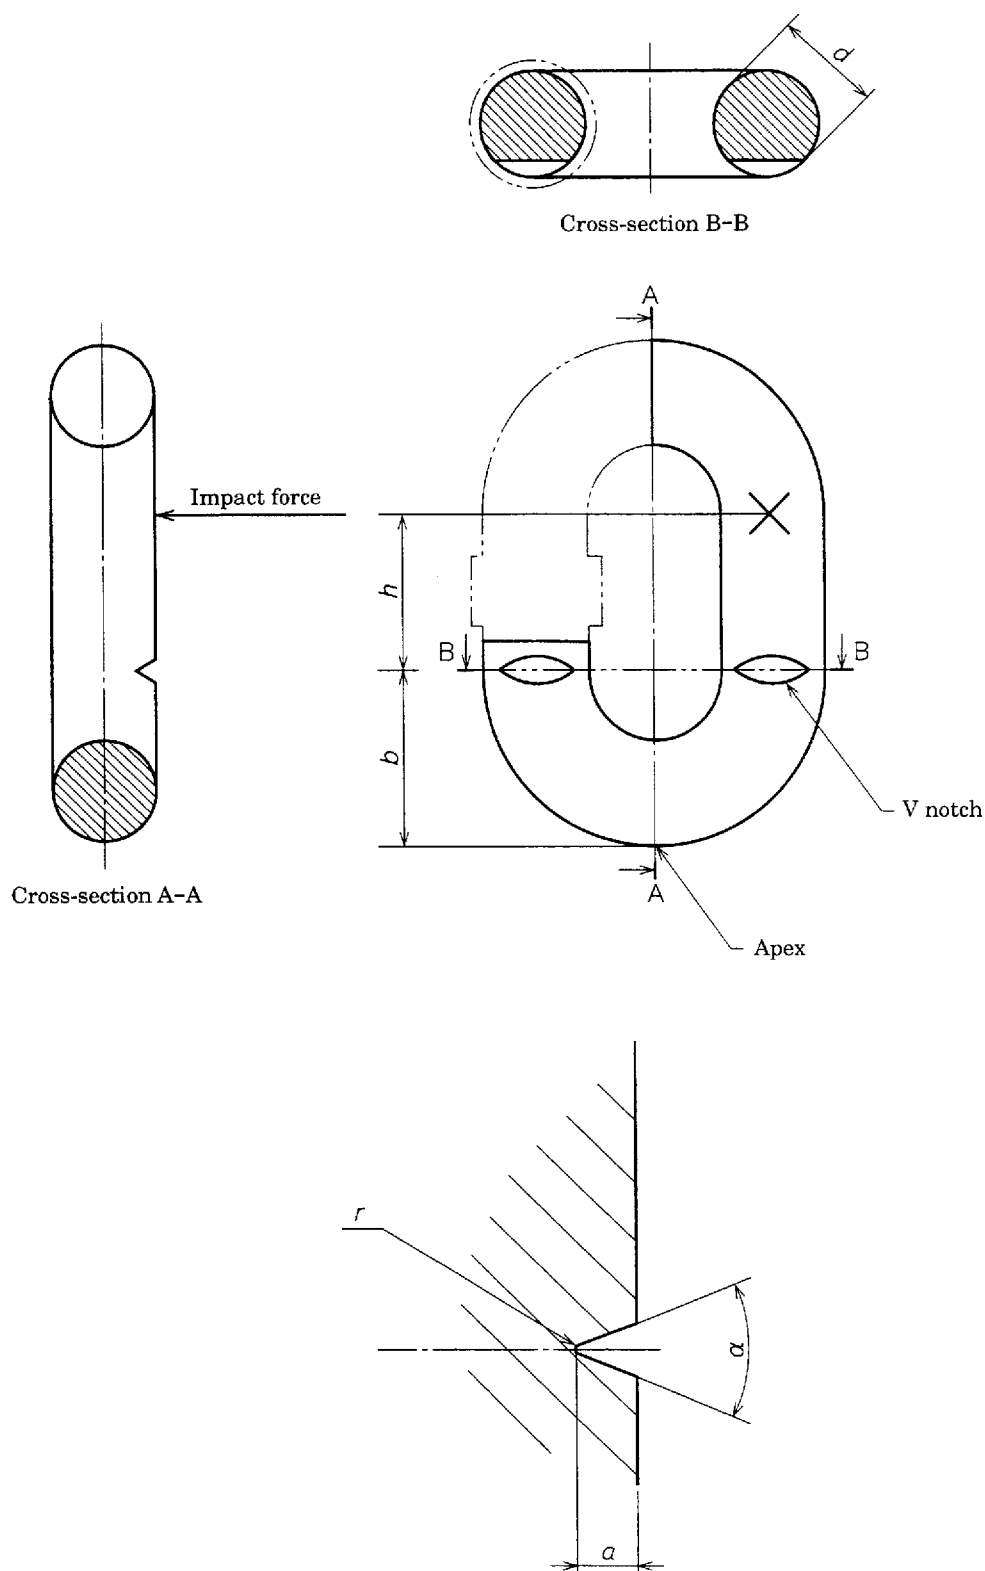

Figure 1 J-shaped test piece
- c) **wire diameter of J-shaped test piece (d)** the wire diameter of the parallel portion of a chain link (see figure 1)
- f) **absorbed energy of J-shaped test piece (E)** energy required for breaking a J-shaped test piece in performing the test
- g) **impact value of chain link (T_c)** the value calculated according to the following formula from the absorbed energy (E) of a J-shaped test piece obtained by performing the test
- h) **distance between test-piece support and impact point (h)** the distance between the top surface of test-piece support and the blade edge when the blade edge comes in contact with the J-shaped test piece at the impact point (see figure 1 and figure 3)
- b) The shape of the J-shaped test piece shall be as shown in figure 1. The dimensions shall be as given in table 1.